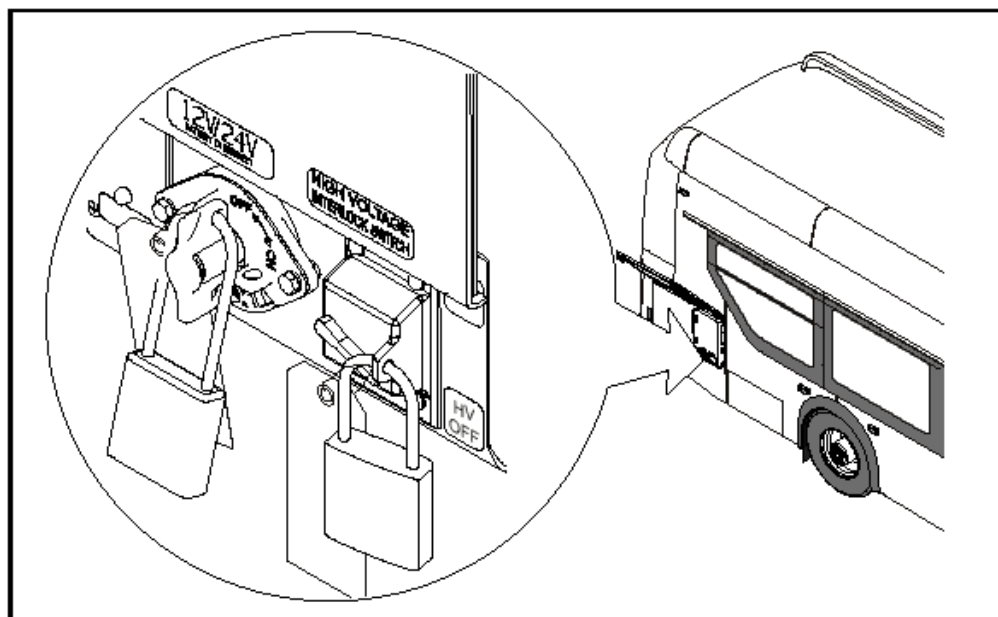

Figure 1: Lockout tagout location reference.
3. Lock and tag the electrical system of the bus out and retain the key. See Figure 1.